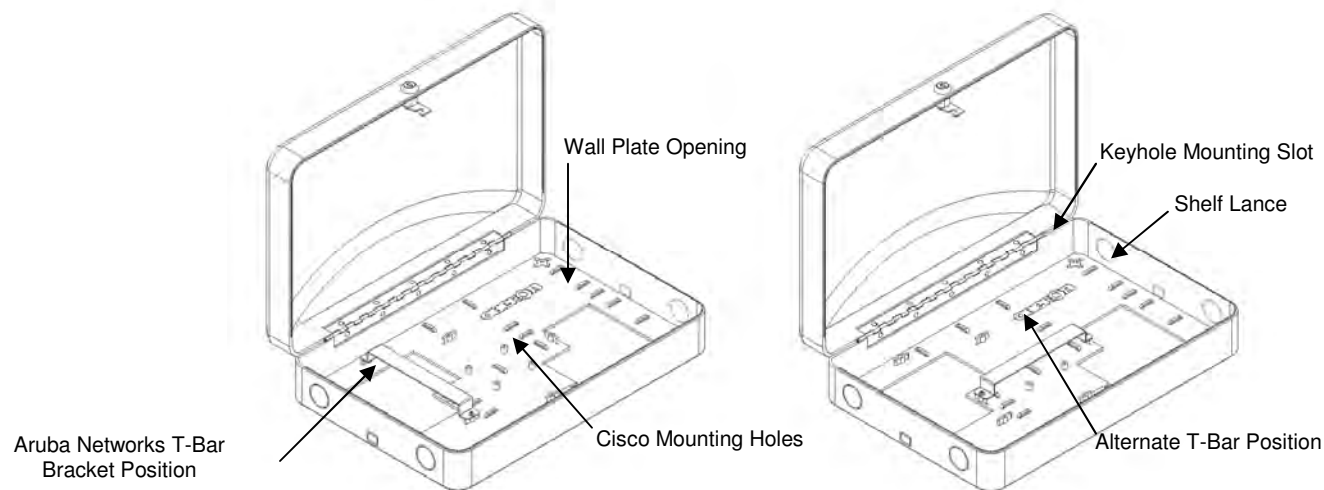

Figure 1 - Model 1016-00 Features
Step 1a – (Most vendor's Access Points) Attach the access point's ceiling grid clip to the T-Bar bracket using the access point's instructions for mounting to a ceiling T-Bar. The T-Bar can be positioned to best meet the orientation of the access point by using the second set of bosses. If using an Aruba Networks AP with external antennas, fasten the T-Bar Bracket as indicated (Ref. Figure 1).
Step 1b – (Cisco Access Points Only) Open the enclosure door and remove the T-Bar Bracket. Fasten Cisco's AIR-BRACKET-1 or 2 to the designated bosses with the #6-32 screws (Ref. Figure 1). Mount the AP and deploy the antennas if necessary (Ref. Figure 2).